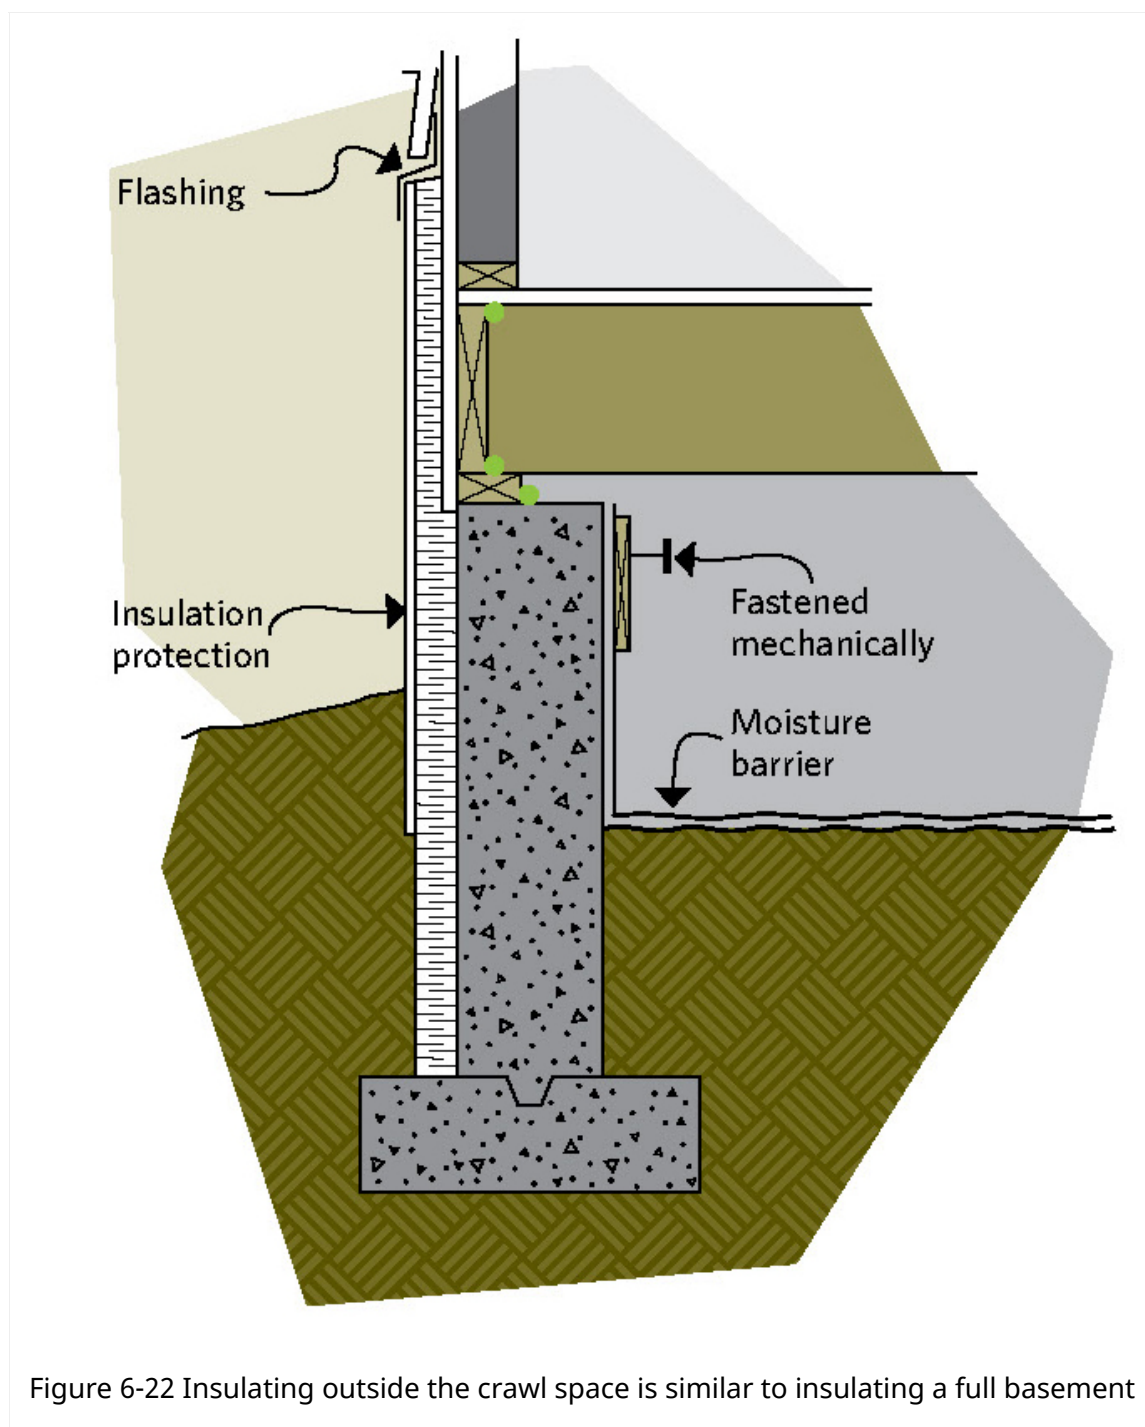

Figure 6-22 Insulating outside the crawl space is similar to insulating a full basement
- Insulate the outside wall exactly as described previously for the outside basement wall (see Figure 6-22 and Part 6.1, Insulating the basement from the outside).